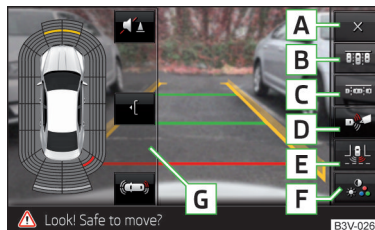

Fig. 176 Function surfaces
Function surfaces » Fig. 176
- Tap the function surface **C** » Fig. 176 on page 138.